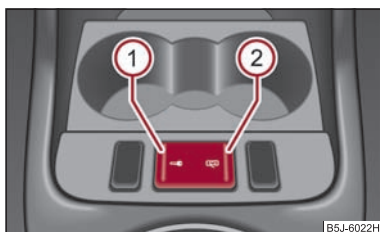

Fig. 27 Button for the central locking system
- Press button ① ⇒ fig. 27. The symbol  in the button comes on.
- Press button ② ⇒ fig. 27. The symbol  goes out in the button.